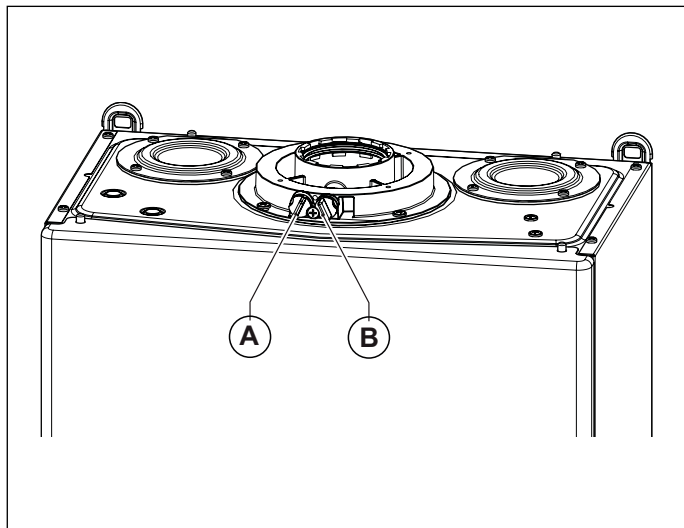
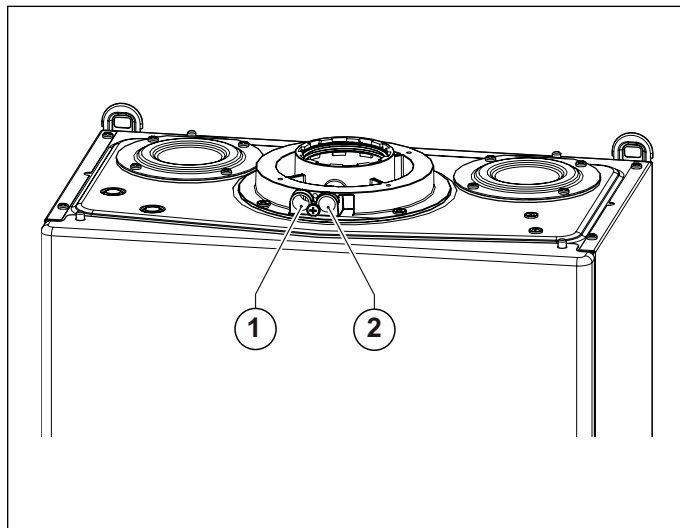

Fig. 17 Caps position
Fig. 18 Hole position
The boiler is equipped with a tower allowing for air intake/flue gas venting pipe connection (see Fig. 17 Caps position and Fig. 18 Hole position).
The tower is designed with two pre-arranged openings directly accessing air and flue gas ducts (see Fig. 18 Hole position).
Remove caps **A** and **B** from the pre-arranged openings on the tower, before taking the measurements (see. Fig. 17 Caps position).
- assess combustion air from opening **1** (see Fig. 18 Hole position).
- assess flue gas temperature and CO2 from opening **2** (see Fig. 18 Hole position).